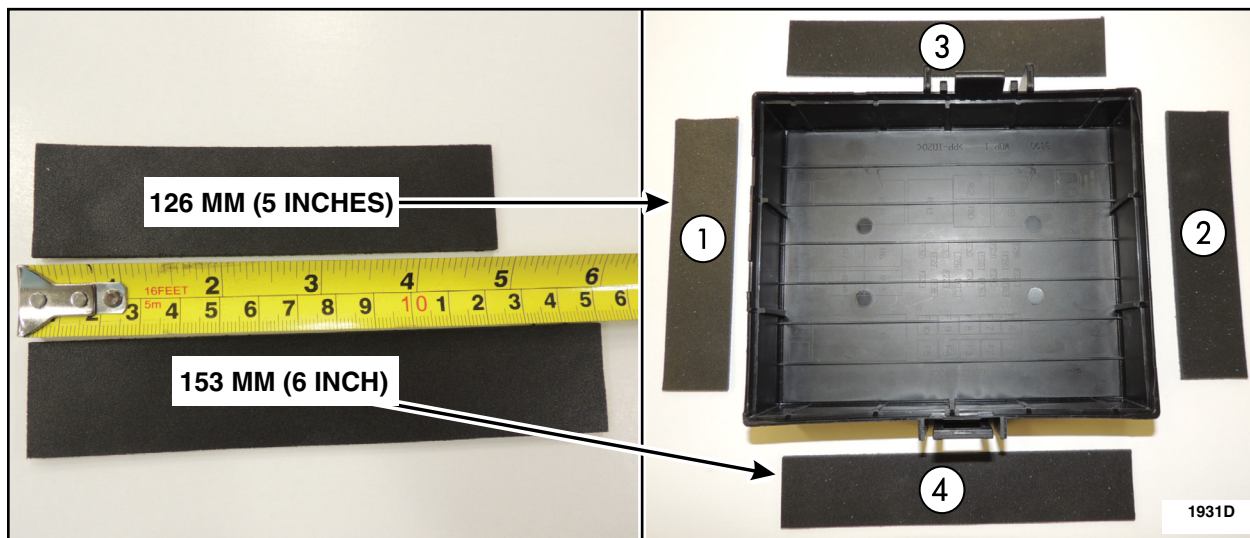

FIGURE 4
6. Follow the order in the layout shown below. See Figure 4.
9. Following the order layout in Figure 4, repeat Steps 7 and 8 for the remaining three pieces of foam.